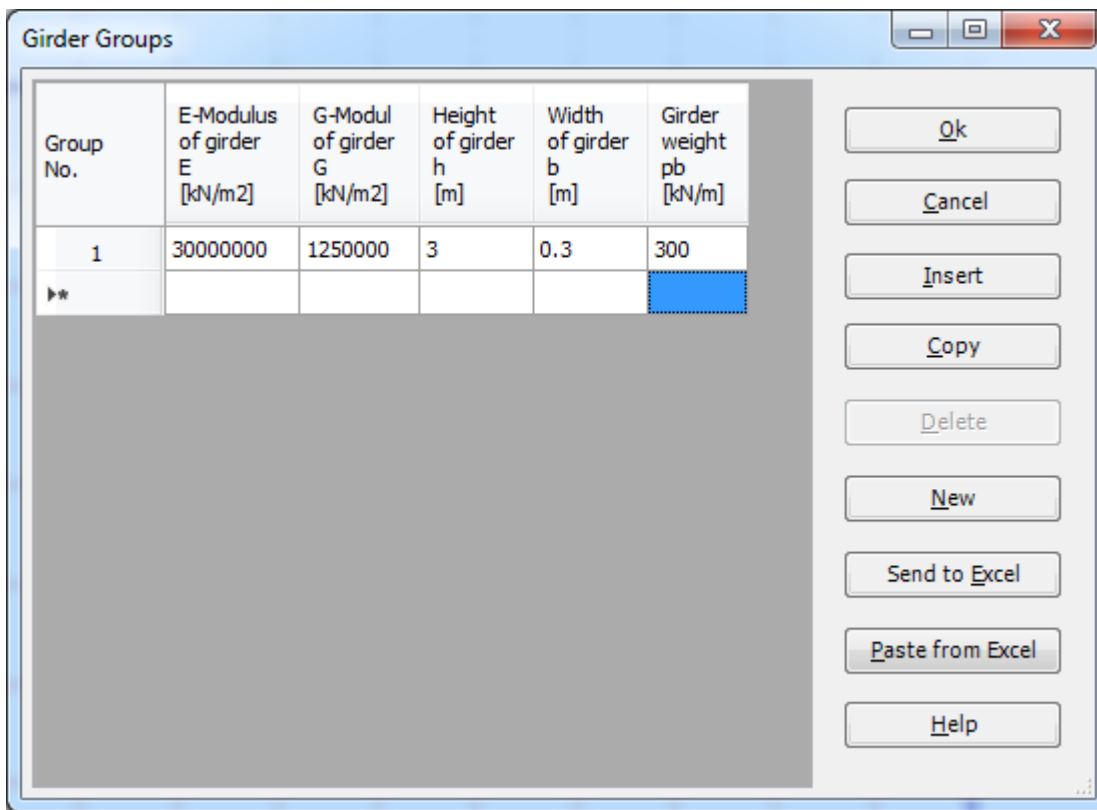

Figure 13.16 "Defining girder groups" list box
After clicking "OK" button in the "Cross section definition" option box, the following list box in Figure 13.16 appears.
- Enter the material properties of the walls, cross section dimensions and the wall weight as indicated in Figure 13.16. This is done by entering the value in the corresponding cell and press "Enter" button